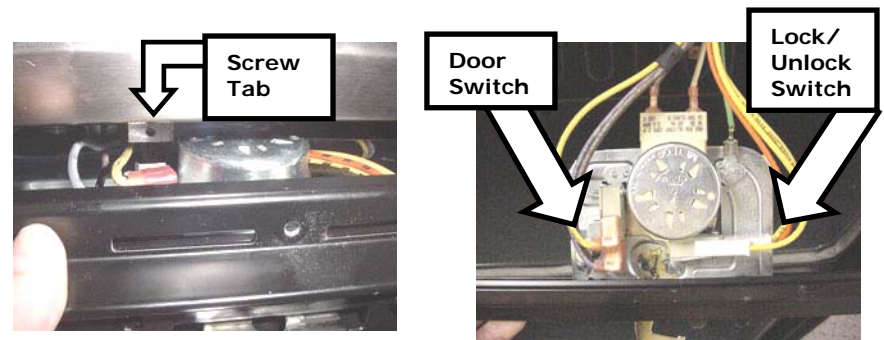

Figure 8 Door latch/motor assembly
2. Pull trim forward about 1", then slightly to the right or left to clear the screw tab (see Figure 8).